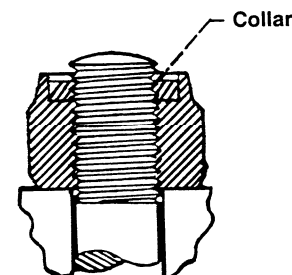

Figure 5.—Locking collar.
**Locking collar and seal.**—A fiber or nylon washer is mounted in the top of the nut as shown in figure 5. The collar has an interference fit such that it binds on the bolt threads. It also provides some sealing action from gas and moisture leakage. Once again the limiting feature of this nut is the approximate 250 °F temperature limit of the locking collar.